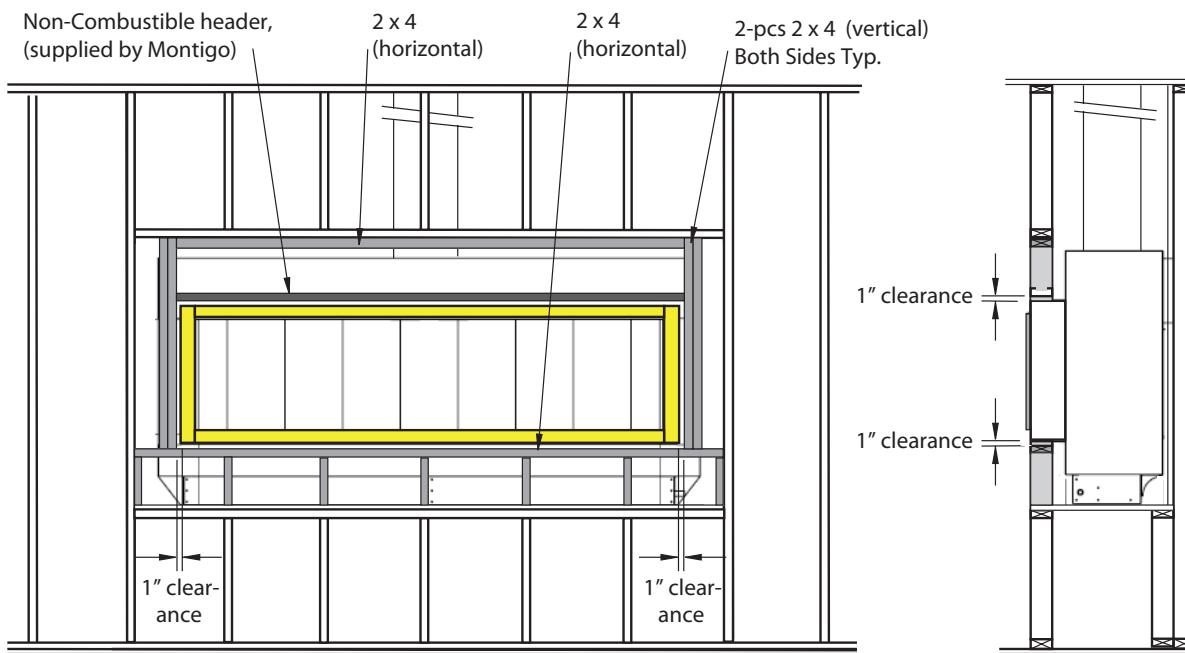
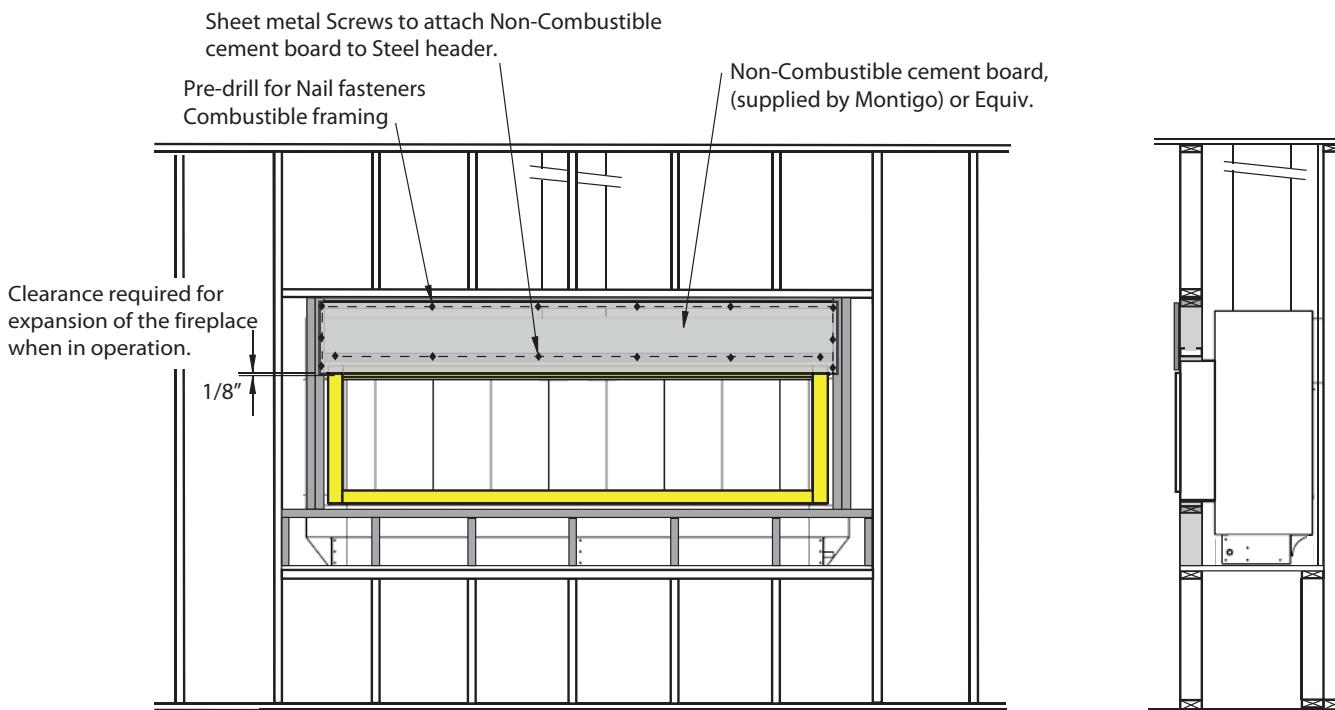

Figure 16b. Fireplace installation, (Ensure you maintain the 1" clearance to combustibles).
Figure 16c. Non-combustible Board over the Fireplace, (*supplied by Montigo*).
combustibles), **Figure 16b**. Next, cut four vertical 2 x 4's to install between the Upper and Lower Horizontal 2 x 4's, (2-pcs either side). (Ensure these are placed the required 1" clearance to combustibles). Cut the top 2 x 4 (horizontal) to fit between the vertical 2 x 4's (either side of fireplace) as shown. Last, install the Supplied Steel Header 1" above the fireplace throat.
Step 4. As shown in **Figure 16c**; Cut a sheet of Non-combustible concrete board to overlap the new Horizontal & Vertical 2 x 4's, See **Figure 16b**, Above. Place the Non-combustible wall board above the fireplace throat, allowing 1/8" clearance from the rim above the fireplace opening. Pre-drill the board with 1/8" drill and secure to framing with Nails, use flat heat sheet metal screws to fasten the board to the metal header.